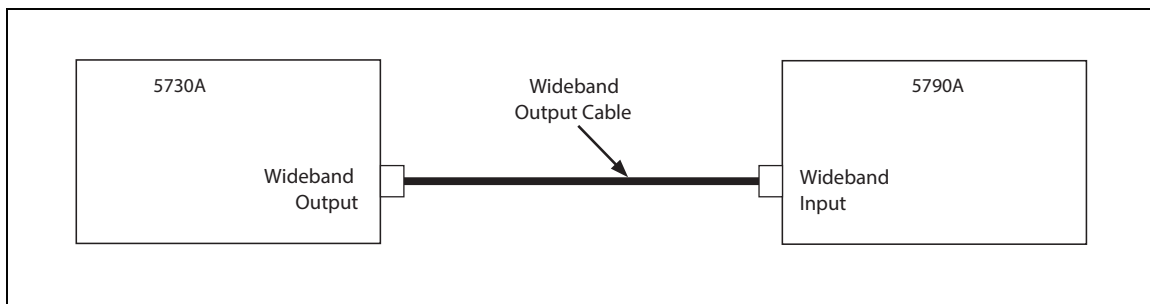

Figure 5. Wideband Flatness Calibration Connections
3. Connect the equipment as shown in Figure 5. Note that the wideband cable is connected to the 5790A directly, the termination is not used.